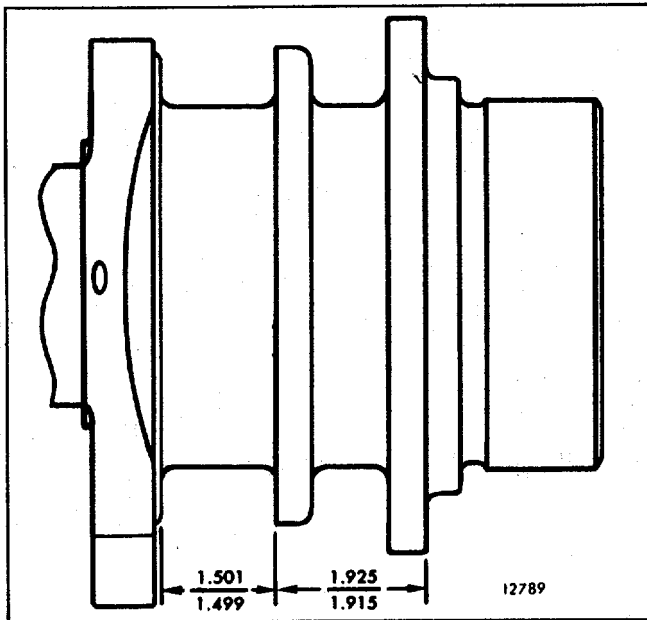

FIG. 8 - Standard Dimensions at Crankshaft Thrust Surfaces
Also measure the crankshaft thrust surfaces (Fig. 8).
6. If the thrust surfaces of the crankshaft are worn or grooved excessively, they must be reground and polished (Fig. 8). Care must be taken to leave a .100" to .130" radius between each thrust surface and the bearing journal.
NOTE: If the crankshaft thrust surfaces were reground, it may be necessary to install oversize thrust washers on one or both sides of the rear main journal. Refer to Fig. 8 and Table 3.